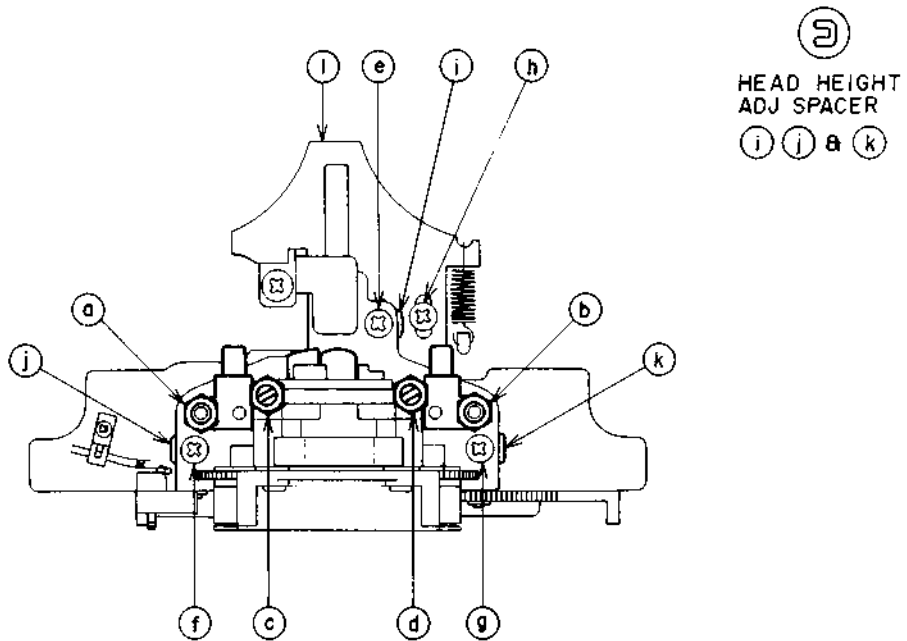

Fig. 6-2
- 2) Adjust the tape guides A and B by turning the tape guide height adjustment nuts ① and ② in Fig. 6-2, so that the tape runs smoothly by the lower edge of both tape guides, and the tape is not hitched by those tape guides.
## 6-4 HEAD BLOCK PROJECTION ADJUSTMENT (Refer to Figs. 6-2 & 6-3)